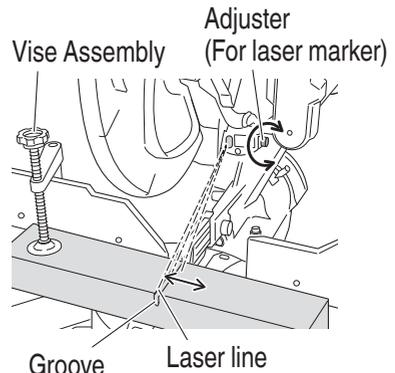

Fig. 15
- (1) Light up the laser marker and make a groove of about 5 mm deep on the workpiece that is about 20 mm in height and 150 mm in width. Hold the grooved workpiece by vise as it is and do not move it. For grooving work, refer to "19. Groove cutting procedures" on page 55.
- (2) Then, turn the adjuster and shift the laser line. (If you turn the adjuster clockwise, the laser line will shift to the right and if you turn it counterclockwise, the laser line will shift to the left.) When you work with the ink line aligned with the left side of the saw blade, align the laser line with the left end of the groove. (Fig. 15) When you align it with the right side of the saw blade, align the laser line with the right side of the groove.
- (3) After adjusting the position of the laser line, draw a right-angle ink line on the workpiece and align the ink line with the laser line. When aligning the ink line, slide the workpiece little by little and secure it by vise at a position where the laser line overlaps with the ink line. Work on the grooving again and check the position of the laser line. If you wish to change the laser line's position, make adjustments again following the steps from (1) to (3).